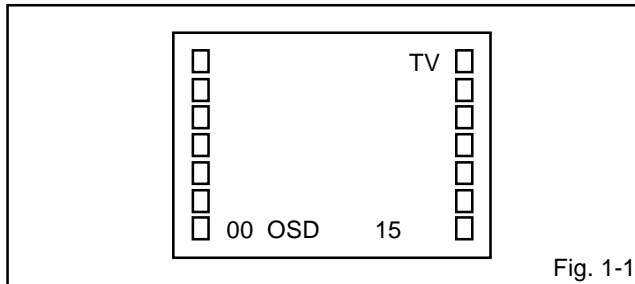

Fig. 1-1
2. Press the VOL. DOWN button on the set and the channel button (9) on the remote control simultaneously to display adjustment mode on the screen as shown in Fig. 1-1.
3. Activate the adjustment mode display of Fig. 1-1 and press the channel button (03) on the remote control to select "VIF VCO".
3. Activate the adjustment mode display of **Fig. 1-1** and press the channel button **(02)** on the remote control to select "RF DELAY".
1. Activate the adjustment mode display of **Fig. 1-1**.
4. Activate the adjustment mode display of **Fig. 1-1** and press the channel button **(01)** on the remote control to select "CUT OFF".
4. Activate the adjustment mode display of **Fig. 1-1** and press the channel button **(10)** on the remote control to select "R CUT OFF".
3. Activate the adjustment mode display of **Fig. 1-1** and press the channel button **(05)** on the remote control to select "H PHASE".
3. Activate the adjustment mode display of **Fig. 1-1** and press the channel button **(06)** on the remote control to select "V SIZE".